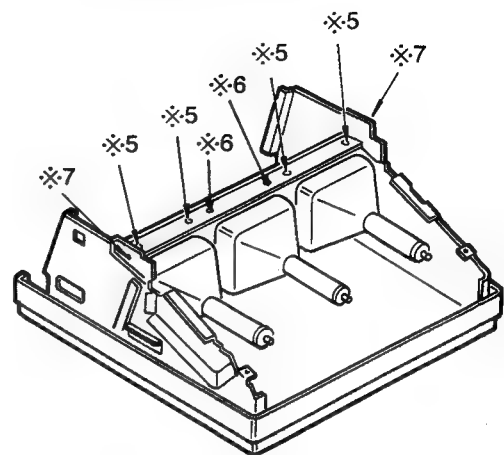

Fig. 42
- (4) Return the unit to its Original position, and remove the four screws designated "※5". [Fig. 42]
If you have difficulty adjusting the CRTs, loosen screws "※6" and "※7" [Fig. 42] slightly. Be sure to re-tighten after adjustment.
After insuring the proper CRT positions tighten the four "※5" screws [Fig. 42].